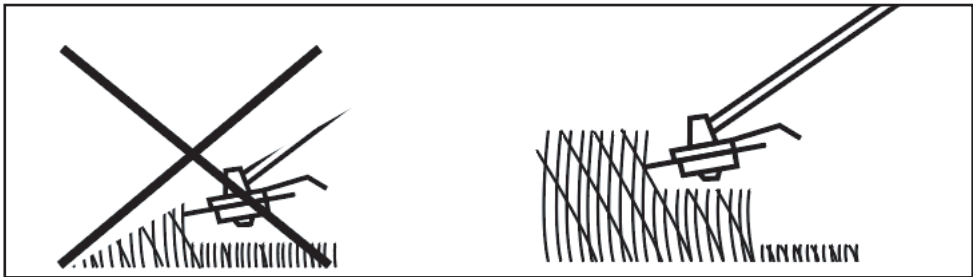

Fig. 12
- Avoid cutting tall grass in one cut. Trim taller grass in stages (Fig. 12).